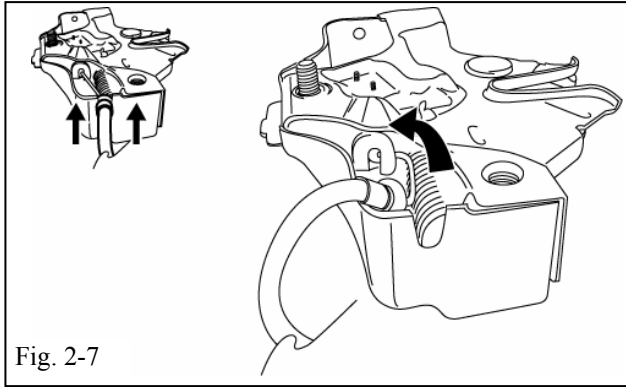
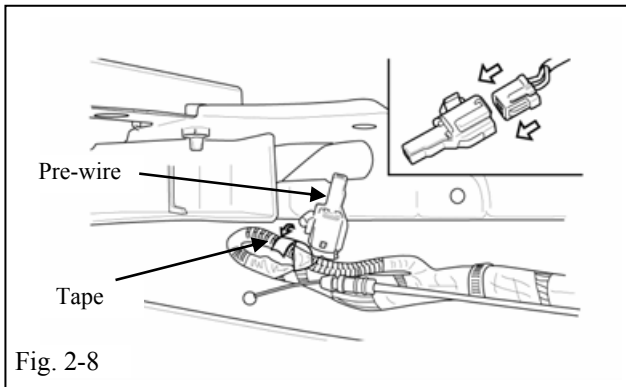

Fig. 2-7
Fig. 2-8
- (h) Disconnect the Vehicle Hood Latch from the Hood Latch Cable. (Fig. 2-7)
- (1) Pull the Cable upwards and out of the notch in the Vehicle Hood Latch Casing.
- (2) Use the Braided Cable to guide the Ball out of the Vehicle Hood Latch.
- (3) Discard the Vehicle Hood Latch.
- (i) Locate the Hood Switch Pre-wire, Black 2P Connector, and remove the tape securing it. (Fig. 2-8)
- (j) Remove the Connector Cover from the Hood Switch Pre-wire. (Fig. 2-8)
- (1) Discard the Connector Cover.